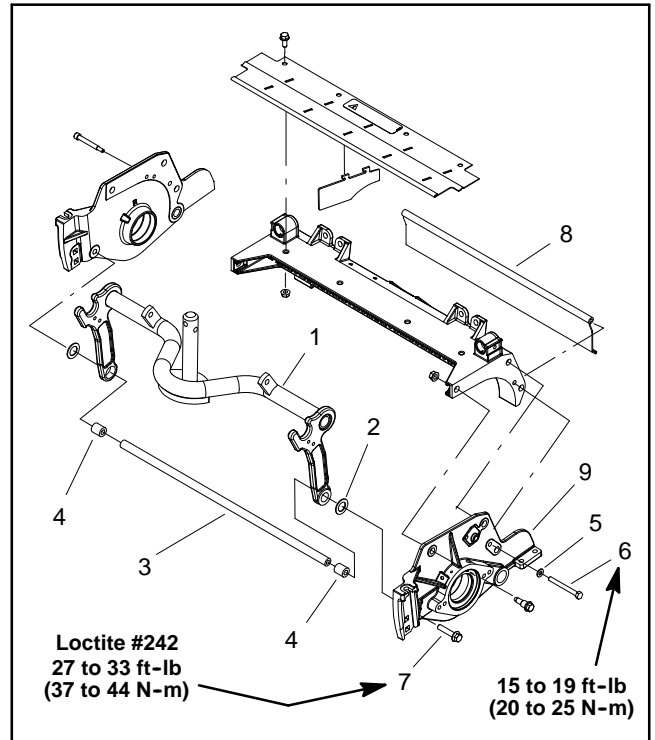

Figure 27
7. Remove cap screw and flat washer that secure rear grass shield to LH side plate (Fig. 27).
8. Remove flange head screw that secures support tube, frame spacer and carrier frame to LH side plate (Fig. 27).
4. On LH side plate, loosen set screw (item 21) and back-off (loosen) bearing adjuster nut (item 20) one complete turn.
6. Install shoulder bolts (item 8) and flange nuts (item 24) that secure the LH side plate to the cutting unit frame. Torque the shoulder bolts from **27 to 33 ft-lbs (37 to 44 N-m)**.
7. Apply Loctite #242 (or equivalent) to threads of flange head screw that secures support tube, frame spacer and carrier frame to LH side plate (Fig. 27). Install screw and torque from **27 to 33 ft-lbs (37 to 44 N-m)**. After tightening screw, check the clearance between the carrier frame and side plate. If clearance is more than 0.090" (2.3 mm), remove flange head screw and position shim(s) (part number 67-9410) between carrier frame and side plate so that clearance is less than 0.090" (2.3 mm). Make sure that the carrier frame pivots freely after assembly.
8. Install cap screw and flat washer that secure rear grass shield to LH side plate (Fig. 27). Torque screw from **15 to 19 ft-lbs (20 to 25 N-m)**.